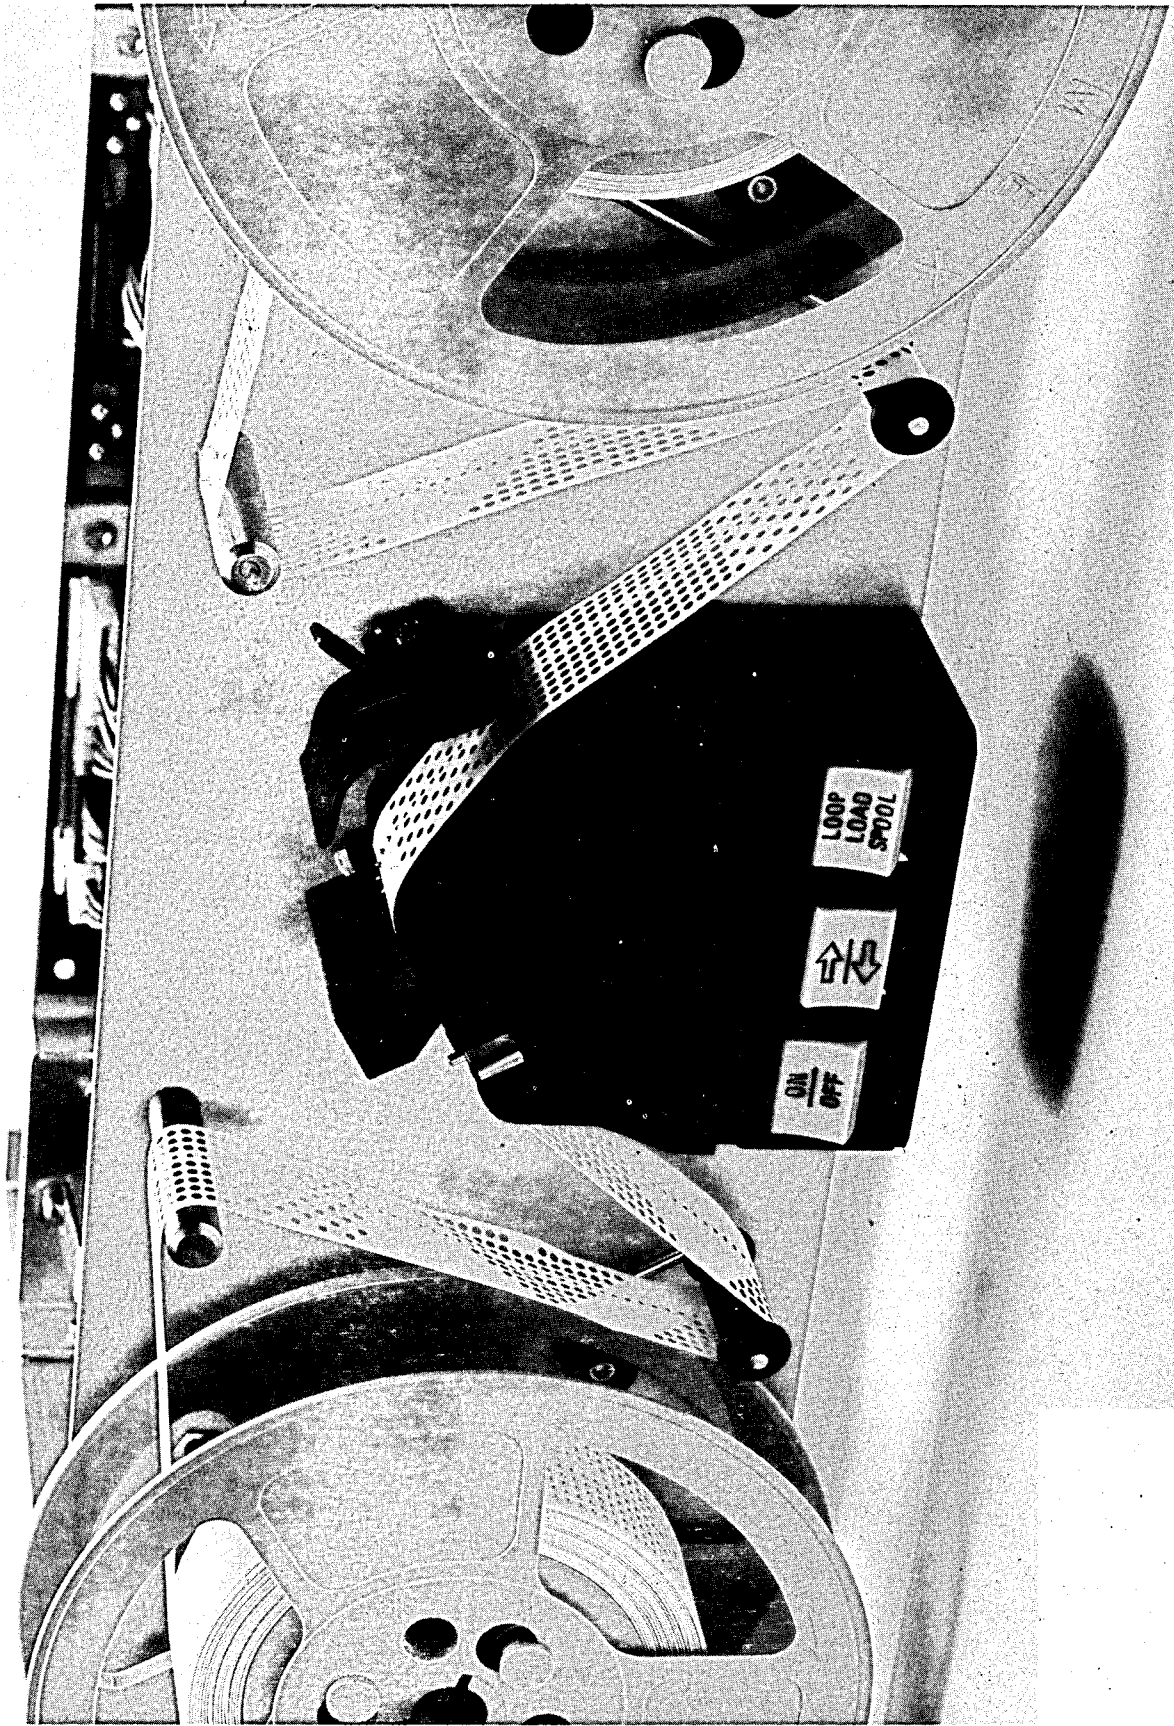
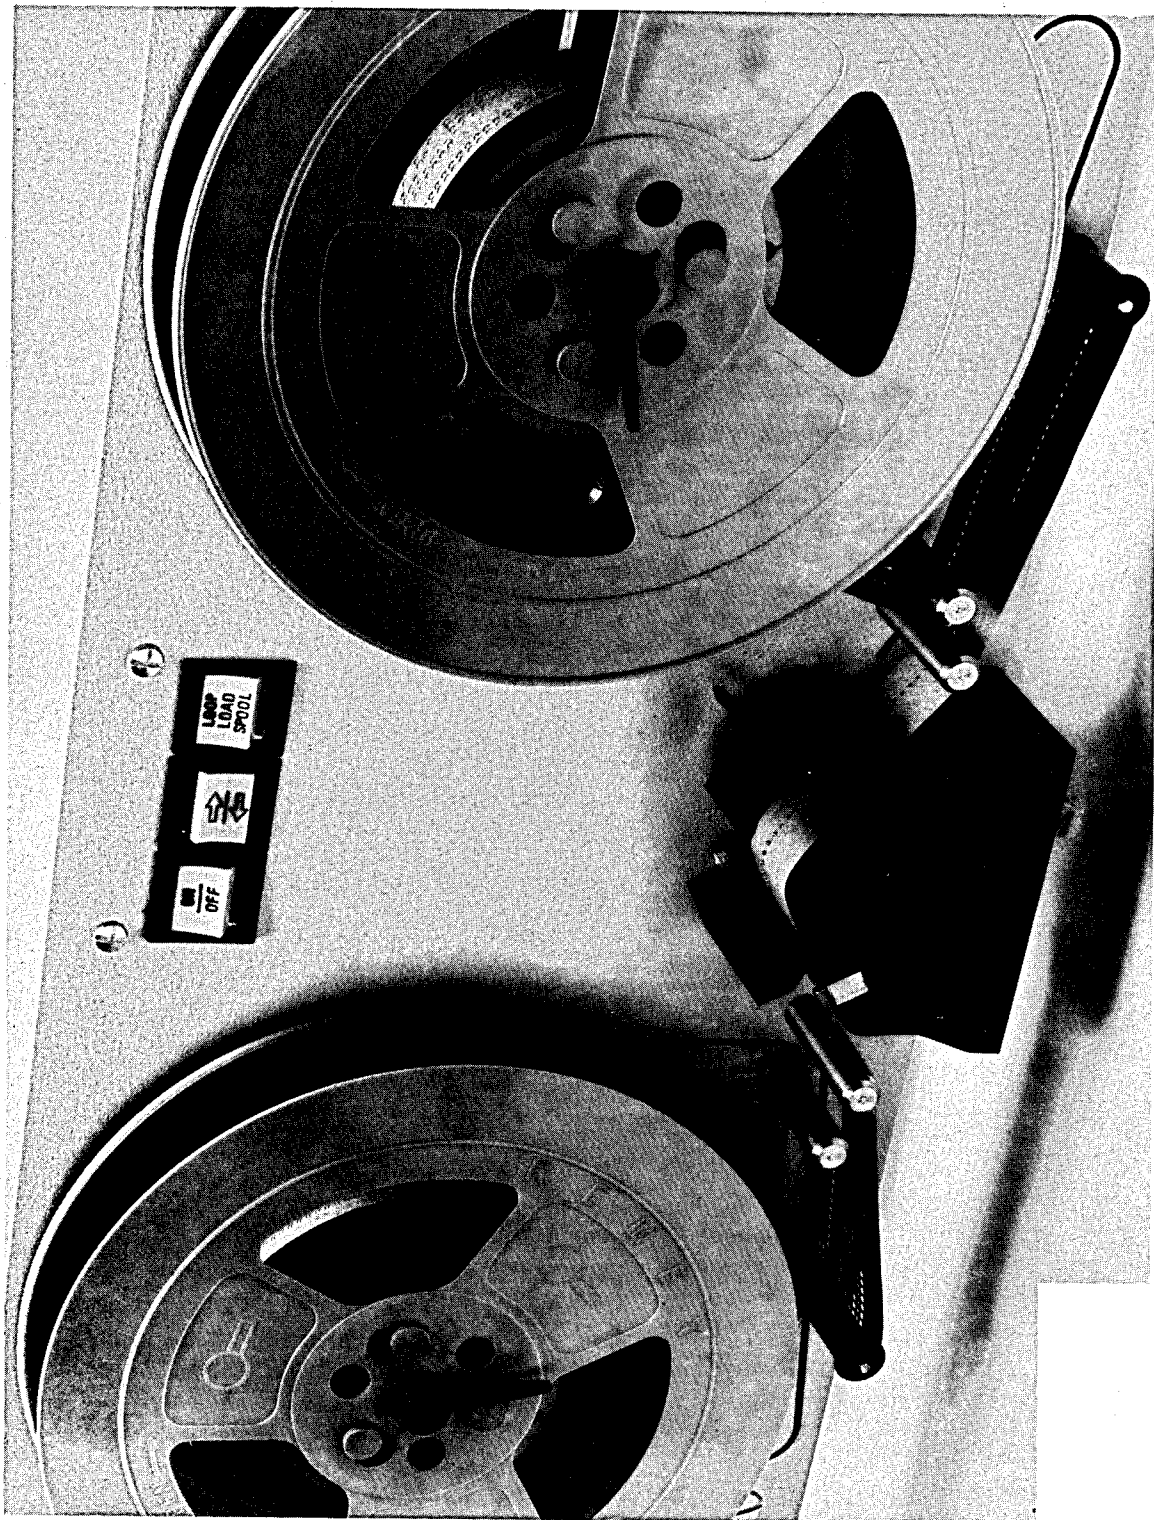

Figure 3-2. Tape Loading, RRS7155BA1/660/G-A.
Figure 3-3. Tape Loading, RRS7155BA1/660/D-A.
- d. Raise the Upper Tape Guide allowing tape to be loaded. Install the reel of tape onto the hub and thread the tape through the spooler and readhead as shown in Figure 3-2 for the RRS7155BA1/660/G-A and Figure 3-3 for the RRS7155BA1/660/D-A. If a loop of tape is used, let it hang free of the tape arms.